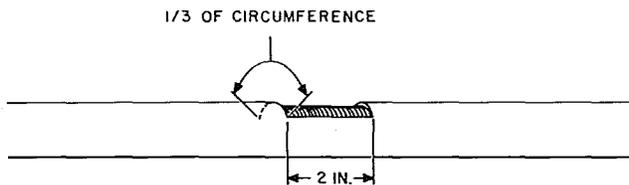

Fig. 7—Sheath Removal at Valve Point
(1) Remove outer polyethylene jacket from the top of the cable at the location of the desired valve point (Fig. 7).